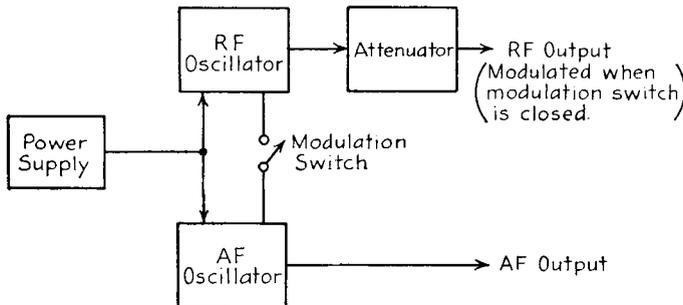

FIG. 6-1. Block diagram of an A-M signal generator.
**Block diagram of the signal generator.** There are various differences in detail between one signal generator and another; basically, they are very similar. A block diagram will show to best advantage the elements that make up an average signal generator (Fig. 6-1).
The modulation switch shown in Fig. 6-1 enables the operator to modulate the RF with the AF signal. The usual practice is to have 30 per cent modulation at an audio modulating frequency of 400 cycles. The 30 per cent modulation means that the RF voltage is made to dip